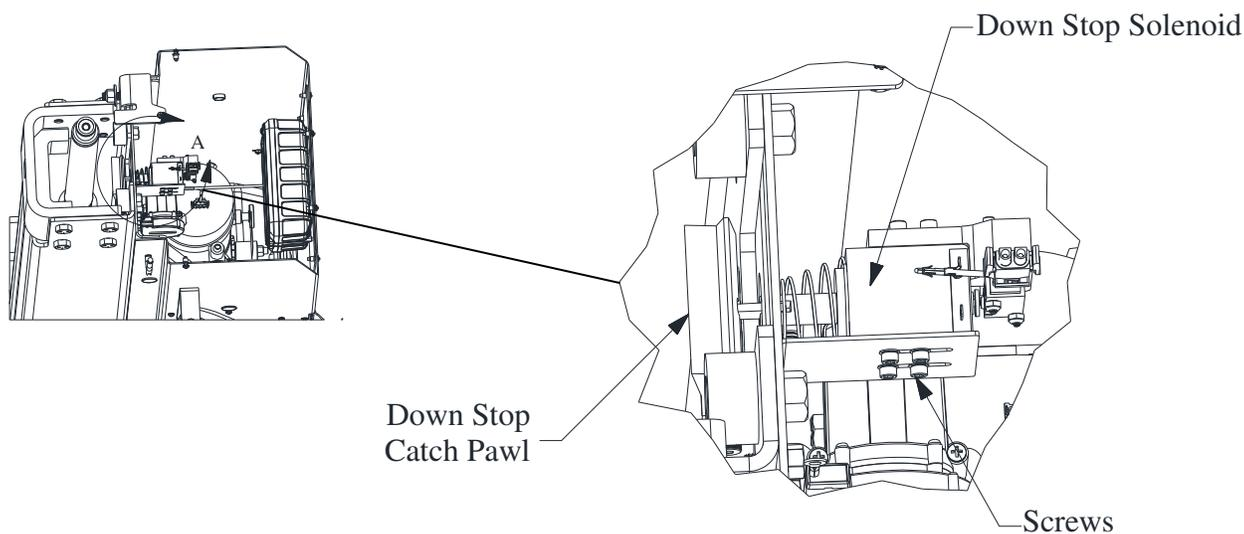

Figure 10. *Down Stop Solenoid*
- Loosen the 4 screws shown in Figure 10 holding the down stop solenoid in position so the solenoid can slide forward and backward.
- Rotate the down stop catch pawl backward toward the inside of the column (as shown by the arrow in Figure 10) until it touches the inside of the column. Hold the pawl in this position.